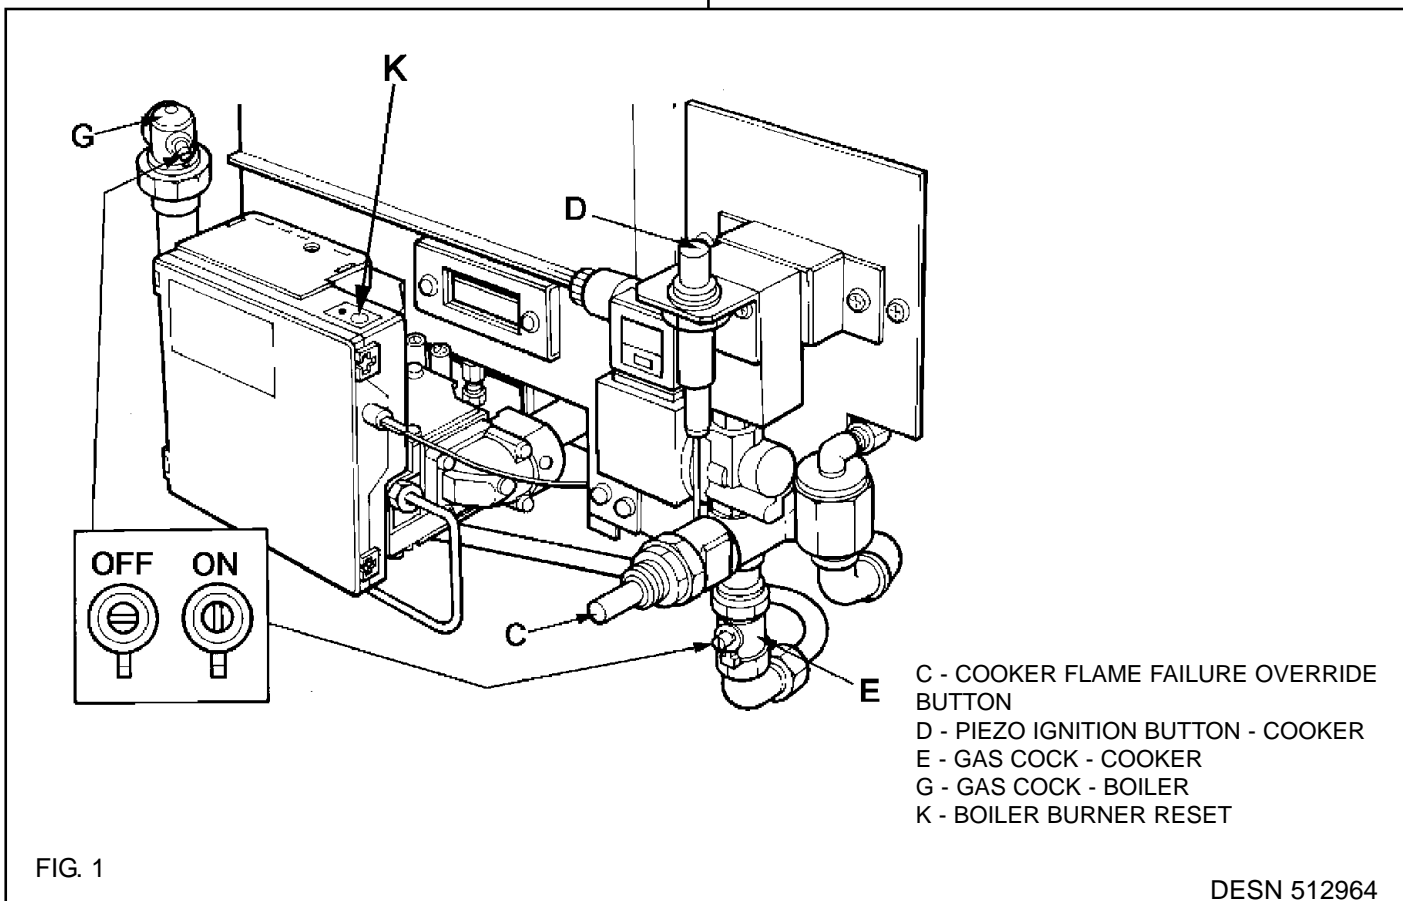

FIG. 1
This appliance is fitted with an automatic ignition unit that will light the main burner on demand. Should button (K) (see Fig. 1) be illuminated press button, this will allow the burner ignition to continue, should the button illuminate again this will indicate a fault on the boiler burner. Contact your local CORGI registered gas engineer to correct the fault.
### Cooker (See Fig. 1)